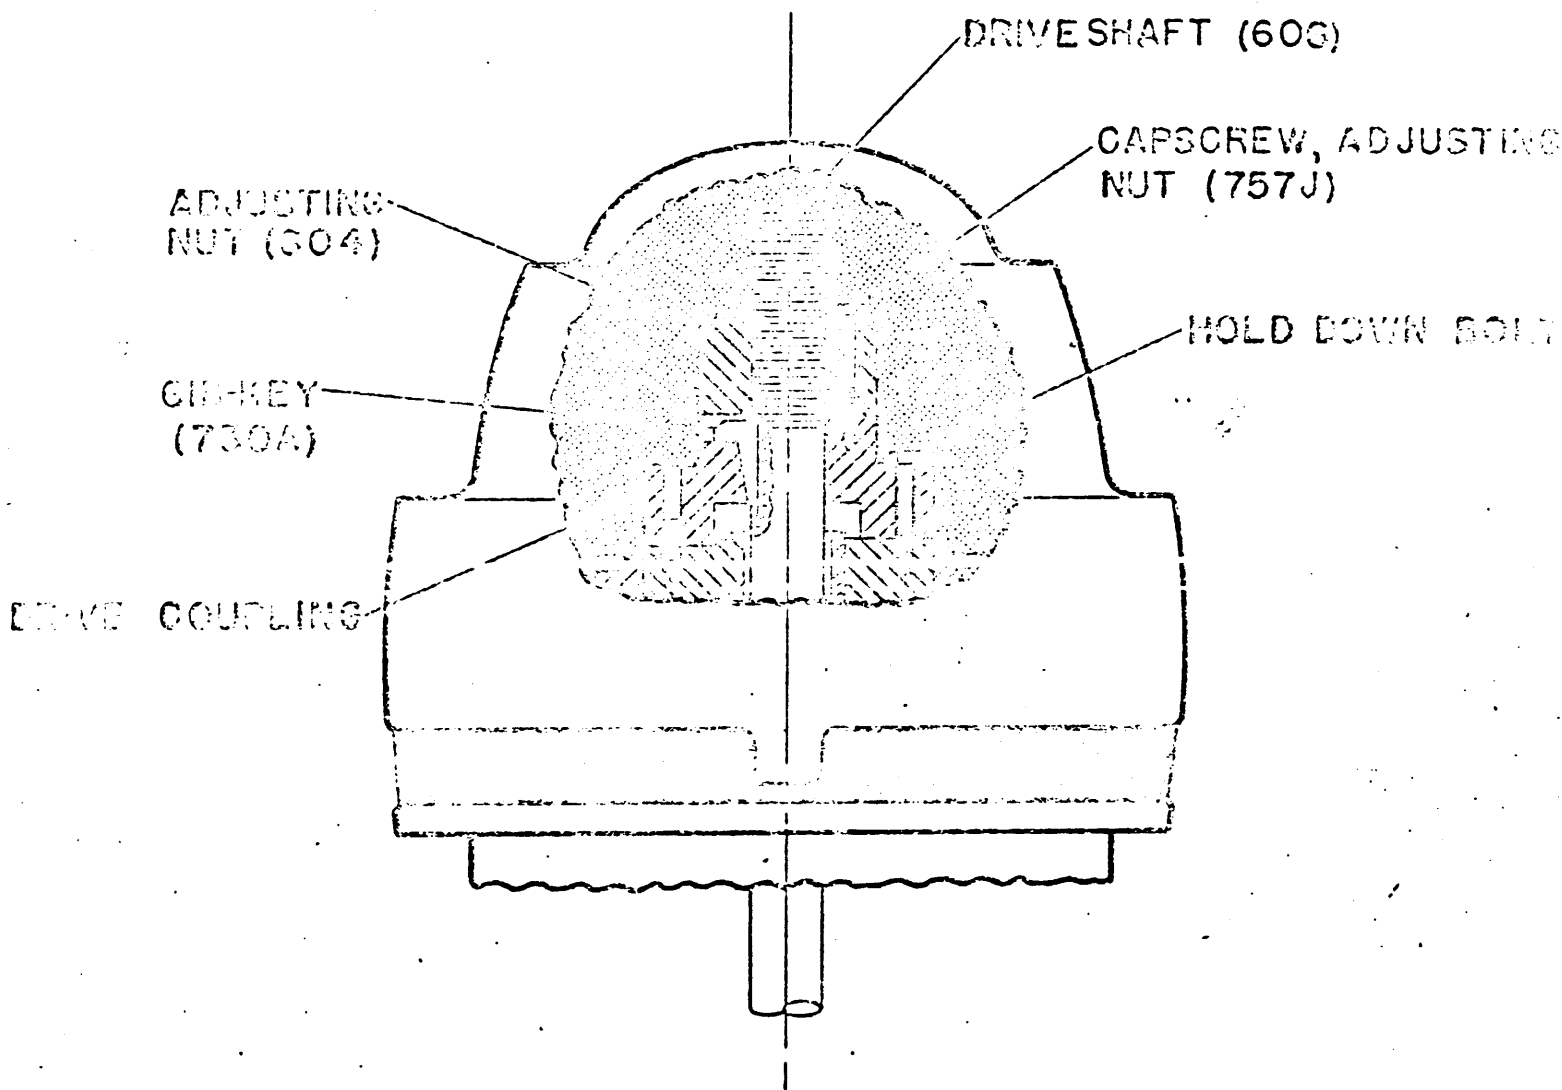

FIGURE 9-1 HOLLOW SHAFT ADJUSTING NUT.
- A. Remove driver cover and drive coupling. (See figure 9-1.)
D. Slip on driver coupling (See figure 9-1). See that the drive coupling is properly seated. Apply a thin film of oil on gib key (730 A) and install key. Key shall be a slide fit allowing adjustment of the drive shaft by means of the adjusting nut. Install adjusting nut (604).